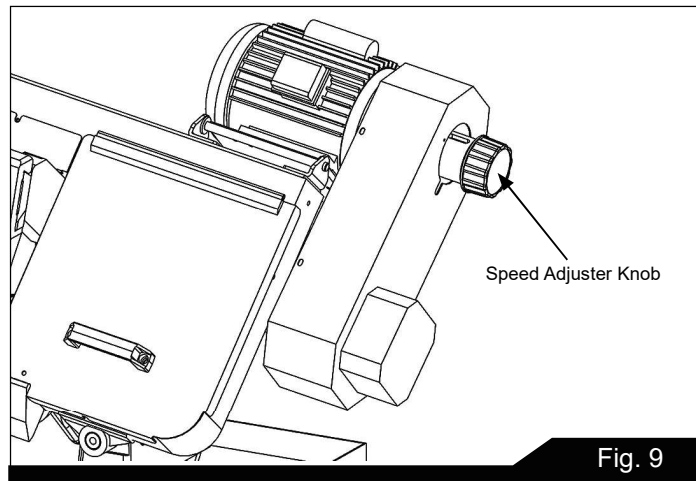

Fig. 9
2. Turn power on and turn speed adjuster knob (as in Figure 9) to match appropriate material.